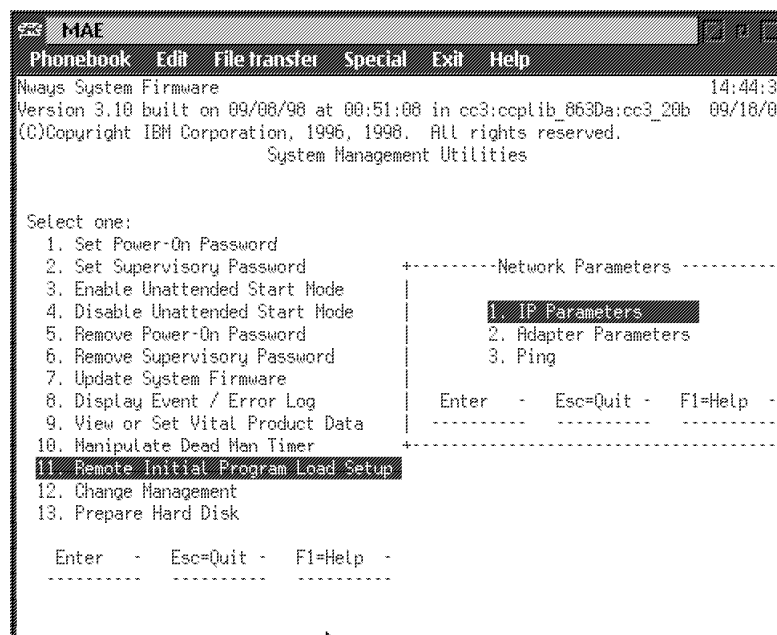

Figure 5-16. Setup Remote Initial Program Load Panel
- 2 The "Network Parameters" panel is displayed (Figure 5-16). From this panel, you can select to enter the IP address of the multiaccess enclosure and the host, input PCMCIA adapter parameters, or Ping from the multiaccess enclosure to the host.